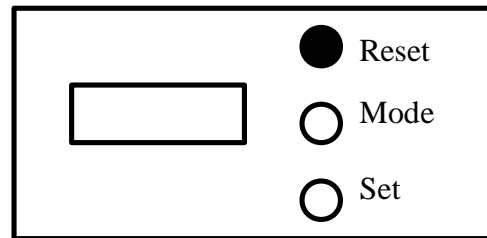

Figure 4
6. To restart the counting session using the same values, hit the **RESET** button on the front of the controller (Figure 4).